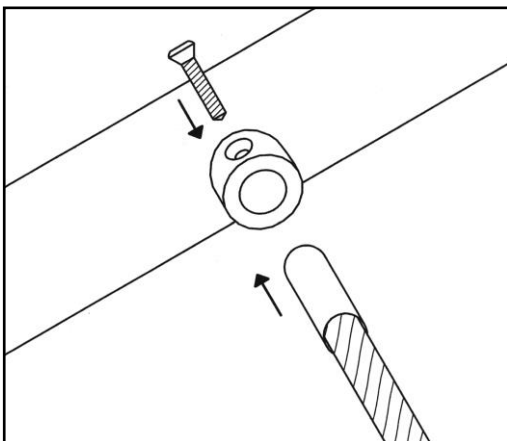

Figure 5
The **horizontal net (NH)** should be fitted first. Insert the rope ends on the slide side into the **ROWOCON® sleeves** as far as they will go and fasten them with the securing screws provided (**figure 5 and 6**). If individual rope ends should insert only with difficulty, you can help yourself with an injection of silicon or oil in the **ROWOCON® sleeves**. In no case it is allowed to remove the end sleeve of the rope! Then fasten the opposite side, using the hemp rope to provisionally tighten the net, which will make threading and screwing down easier.